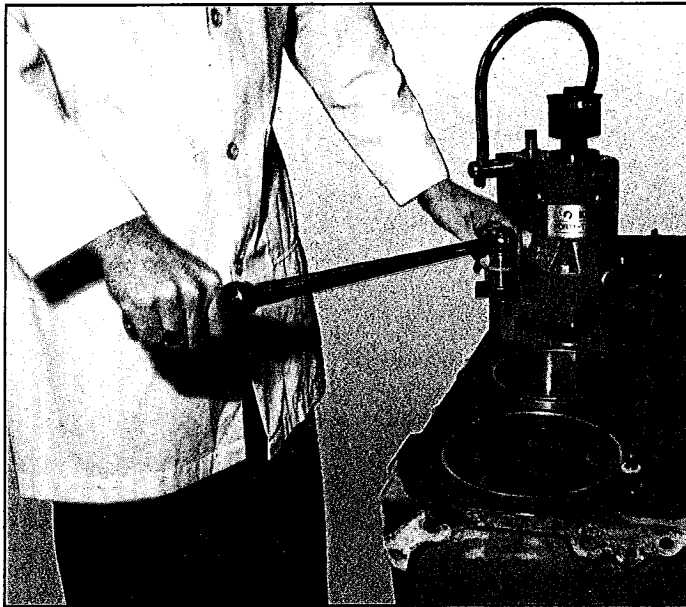

Figure 5
4. Cross torque the 3 cylinder head bolts gradually to 50 ft/lbs. Swing handle down and lock in position. Rotate mainshaft of boring tool to ensure cutter plate is centered in bore. If binding occurs, loosen head bolts and repeat Steps 3 and 4. (See Figure 5)